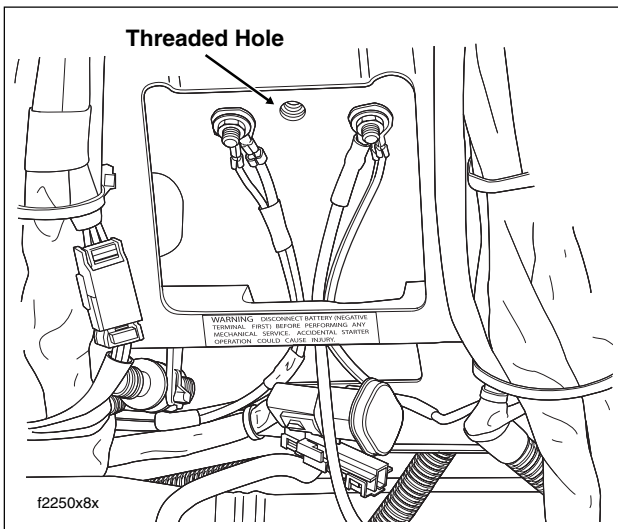

Figure 8-155. Remove Seat
2. Locate threaded hole between ground studs. See Figure 8-155. Thoroughly scrape away all paint from around threaded hole.